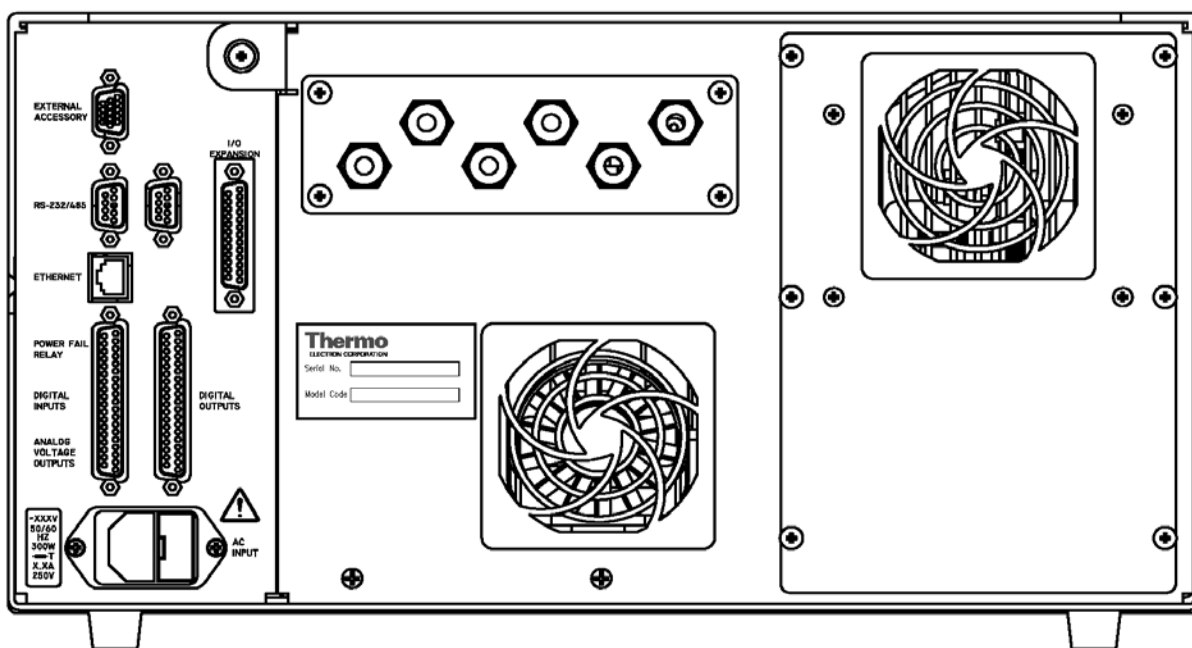

Figure 2-1. Model 42i High Level Rear Panel
1. Connect the sample line to the SAMPLE bulkhead on the rear panel (Figure 2-1). Ensure that the sample line is not contaminated by dirty, wet, or incompatible materials. All tubing should be constructed of FEP Teflon®, 316 stainless steel, borosilicate glass, or similar tubing with an OD of 1/4-inch and a minimum ID of 1/8-inch. The length of the tubing should be less than 10 feet.